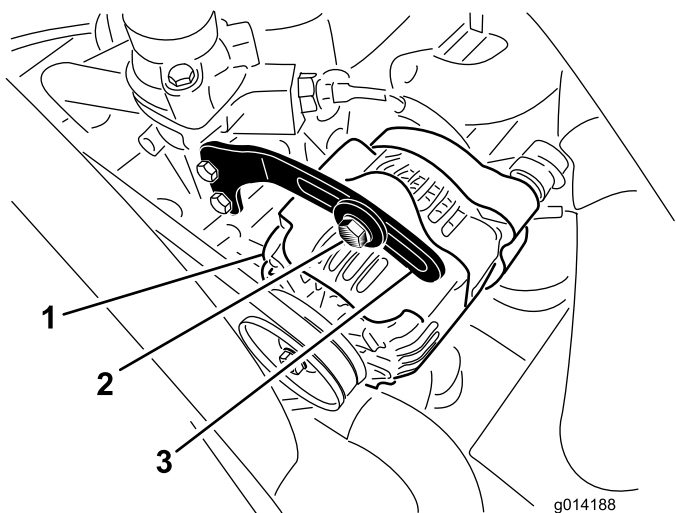

Figure 48
2. Check the tension of the alternator belt by depressing it (Figure 48) midway between the alternator and the crankshaft pulleys with 22 lb (10 kg) of force.
3. Loosen the bolt securing the brace to the alternator (Figure 48), and the alternator pivot bolt.